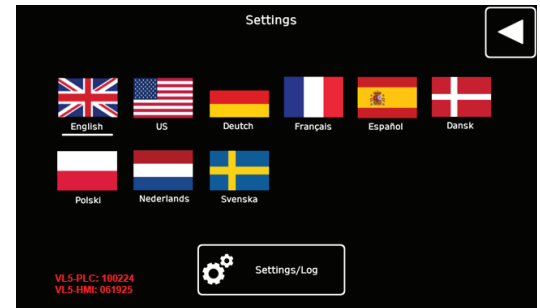

Figure 21-1.
1. For the mixer language selection, select the applicable flag. (Figure 21-1). Factory default setting is set to US.